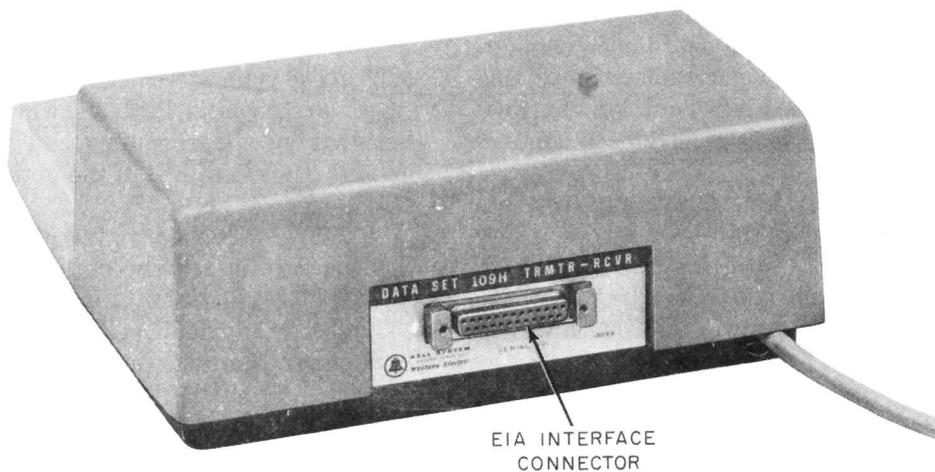

Fig. 2—Data Set 109H-Type—Rear View
1.03 Installation of the data set 109H-type consists of connecting the line to the data set, adjusting the line pads, verifying the options to be used, providing power, and connecting the data set to the terminal equipment via the EIA interface connector (Fig. 2).